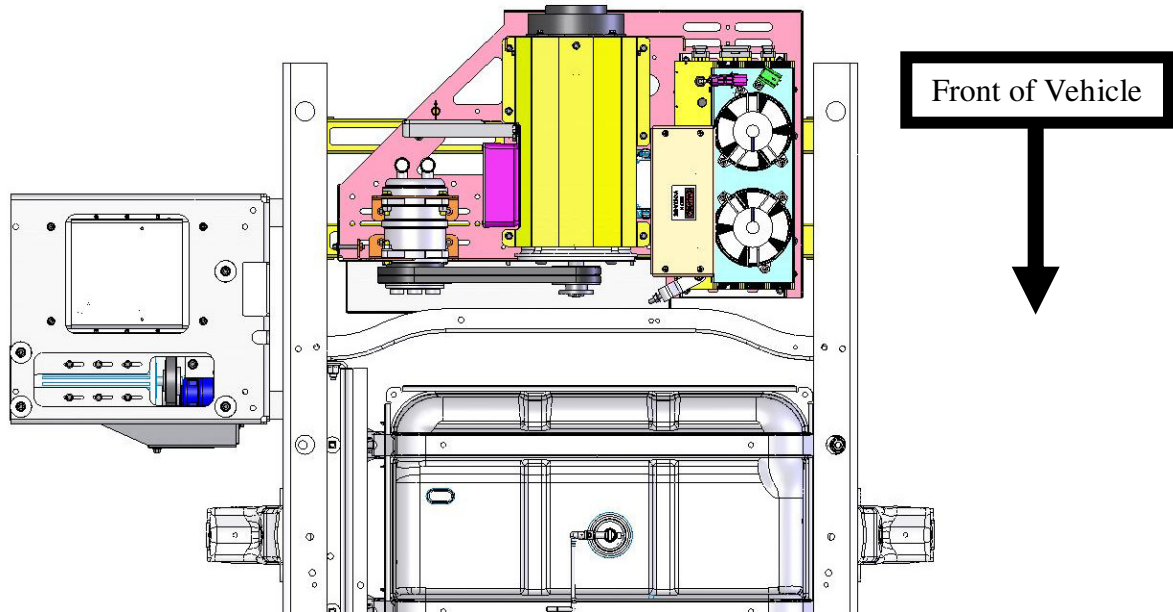

Figure 35: Rear AC System
**NOTE:** Balance™ hybrid shuttle bus chassis are equipped with an electric rear AC compressor drive since an additional compressor cannot be mounted as a front end accessory. The electric compressor drive is mounted between the frame rails, at the rear of the vehicle behind the fuel tank (Figure 35).
The electric drive is mounted to a universal compressor mounting plate (shown in pink in Figure 35).